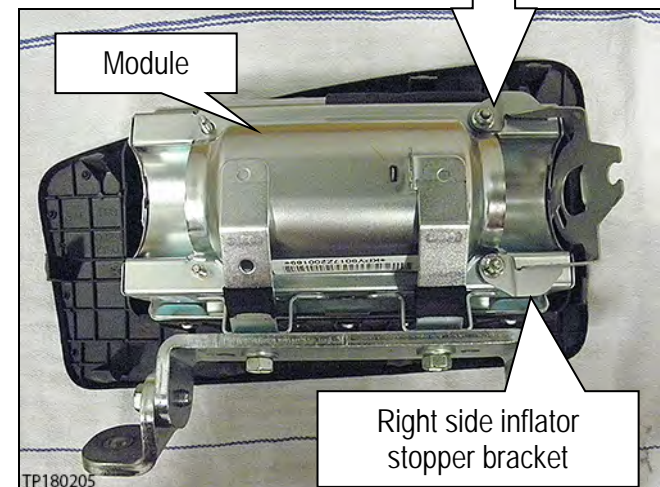

Figure 33
40. Install the **right** side inflator stopper bracket with nuts finger tight (see Figure 33).